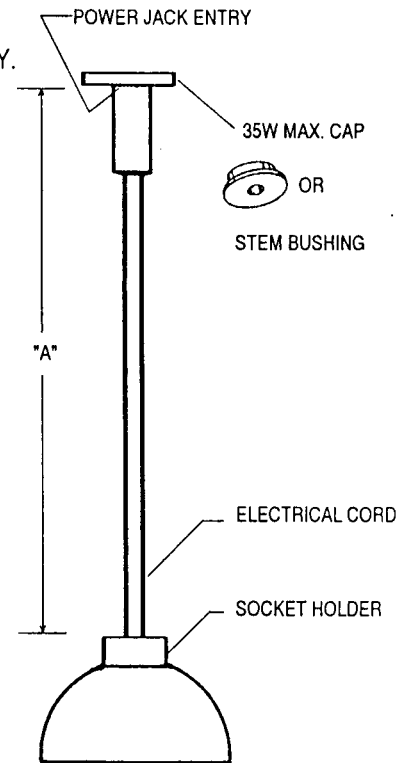

FIG. 1
MOUNTING AND ADJUSTMENTS (FIG. 1)
1. If used with POINT POWER JACK #8605, use the cap marked "35W MAX." (See Fig. 1.) If used with other POWER JACKS, make certain that the STEM BUSHING is removed from the POWER JACK.